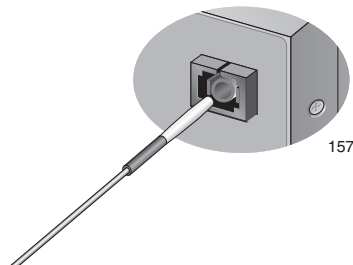

Figure 30. Cleaning a Recessed Ferrule
1. Insert the swab into the adapter as shown in Figure 30 and rub the ferrule tip with the swab.